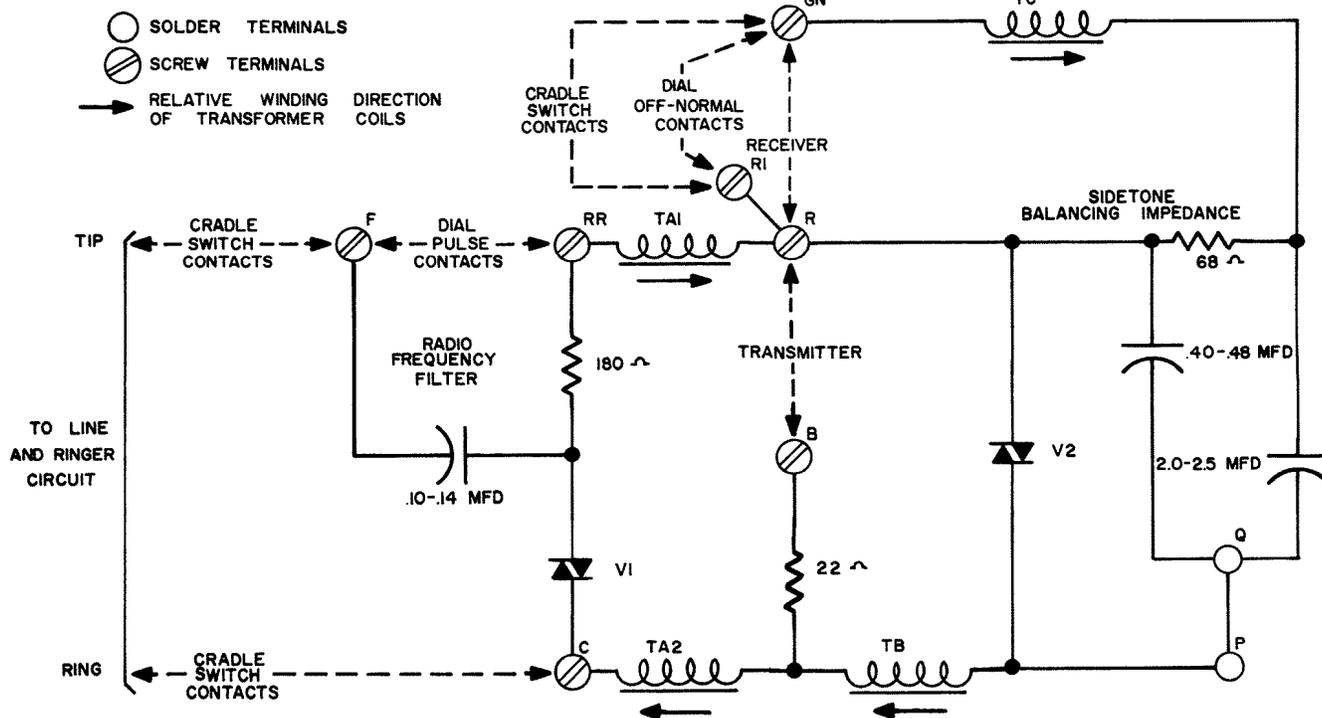

Fig. 2-1 CIRCUIT DIAGRAM
2.1 The circuit is shown in Fig. 2-1; the dashed lines show typical connections to other components of a complete telephone instrument. The features of the circuit are briefly discussed in the following paragraphs.
The direction of winding of the four coils of the transformer is indicated by arrows in Fig. 2-1. Received speech currents pass via windings TA1, TB and TA2, each of which produces an additive voltage in winding TC. The received currents also produce a voltage across the 68 ohms resistor that opposes and is almost equal to that produced by the induced voltages in winding TC. There is, therefore, very little power loss in the resistor and varistor and maximum power in the receiver. The low impedance of the transmitter is matched to the loop by the turns ratio of winding TB to windings TA1 and TA2.
3.1 Thorough testing of the network assembly can only be performed with elaborate test equipment. An adequate check on performance, for maintenance purposes, is to compare a suspected unit with a known good unit by substitution. Resistance and capacitance checks can be carried out between many of the terminals, as can be seen from Fig. 2-1. Note that the soldered connection between terminals P and Q can be opened to permit testing of the two network capacitors. Fig. 3-1 shows the layout of the terminal board of the assembly.